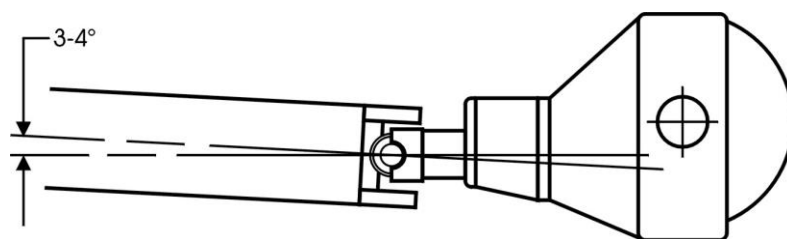

Figure 9
**Note:** Correct pinion angle is essential for proper ladder bar operation and vibration free, extended U-joint life. Pinion angle should be set at 3-4 degrees lower than the angle of the driveshaft. **See Figure 9.**